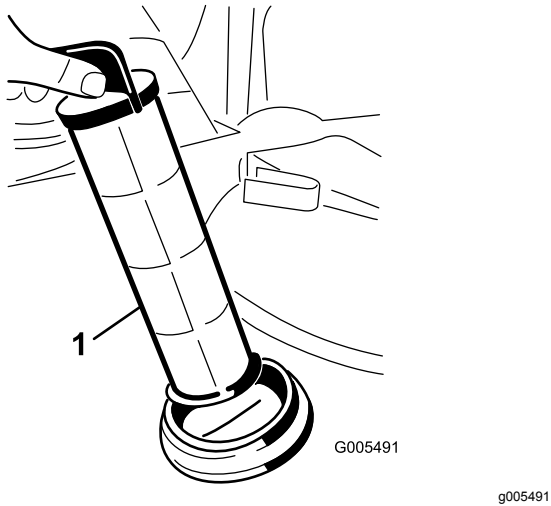

Figure 17
4. Pull the suction strainer out of the strainer housing in the tank (Figure 17).